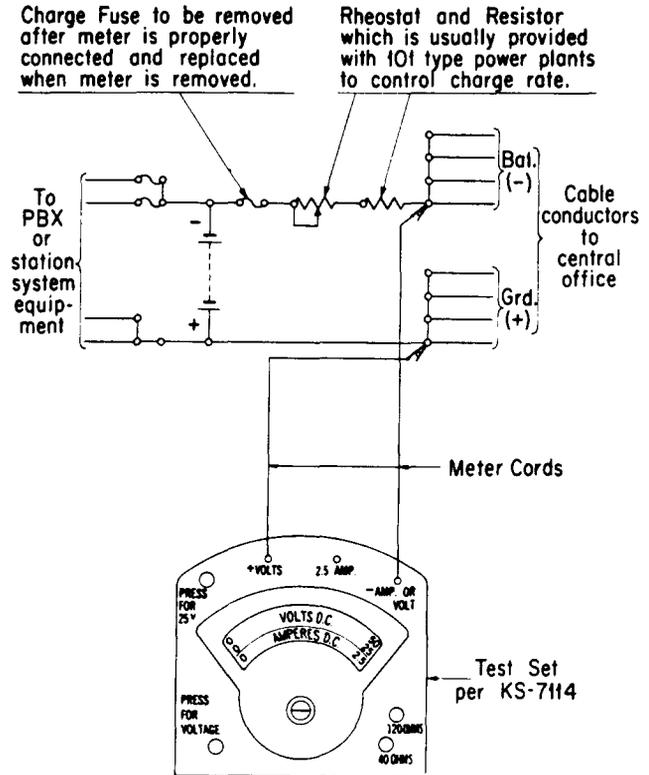

Fig. 5
3.28 With the test connections as shown in Fig. 5, remove the charge fuse which opens the charging current to the local battery.